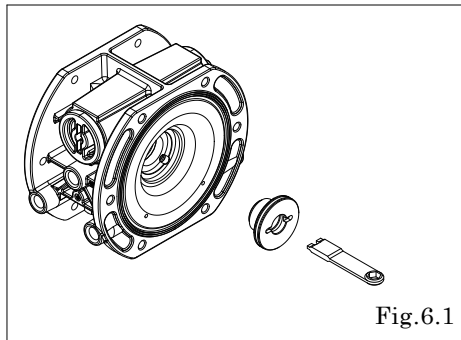

Fig.6.1
- Remove the guide bushing with Cap and disk remover (Special tool: 771132) [Fig.6.1]